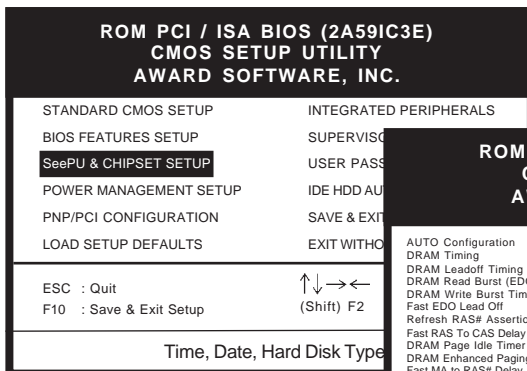

Figure 2-4
2. Move the cursor to SeePU & CHIPSET SETUP menu (Figure 2-4) and press Enter. Commands for operating the cursor in BIOS are found at the bottom of the BIOS screen.